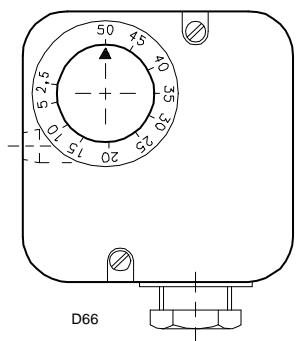

Fig. 24
- Fit a pressure gauge (Fig. 24) to the gas pressure test point on the pipe coupling. The pressure gauge readings are used to calculate MAX burner output using Tab. H on page 19.
The arrival of gas to the pipe coupling is shown by the pressure gauge (Fig. 24 on page 22).